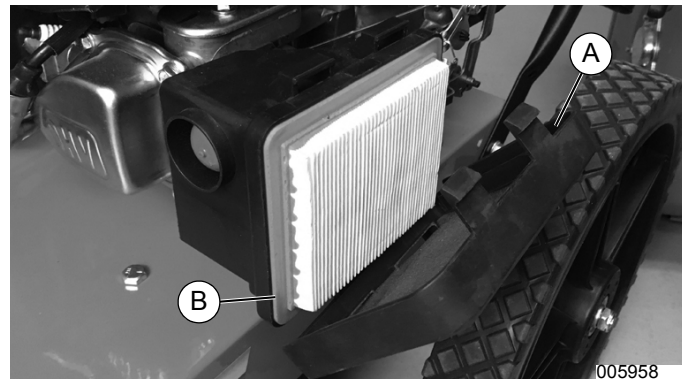

Figure 4-13. Air Filter Replacement
1. See Figure 4-13. Remove air filter cover (A).
2. Remove filter (B)..